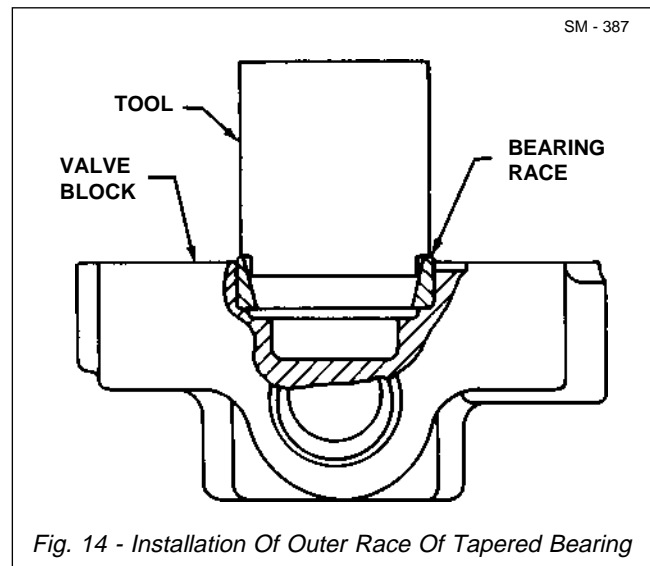

Fig. 14 - Installation Of Outer Race Of Tapered Bearing
1. If inner race of tapered bearing (21) was defective and outer race has been removed, a new outer race must be installed in valve block (15). Refer to Fig. 14 and press a new outer race in place with an arbor press. The outer race must bottom against the shoulder of valve block (15) on completion of press.
**Note:** Check flatness of valve block (15) face in the area around each roll pin (20) hole, and at bolt (14) openings. Use an India stone to remove burrs or raised metal in these areas.